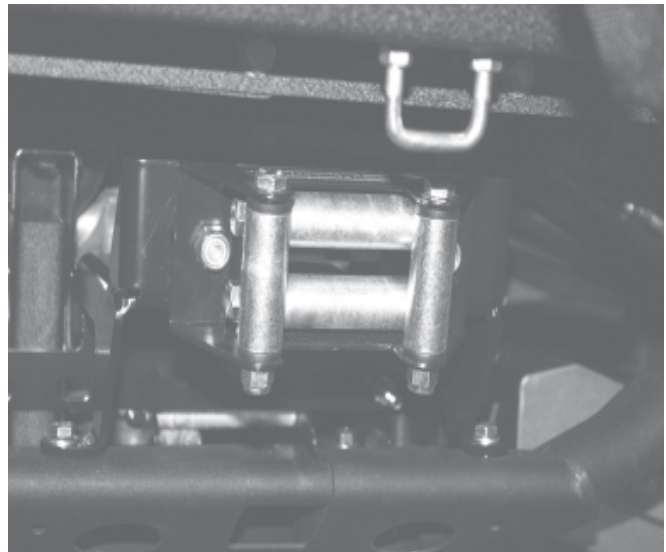

Figure 7
8. Attach the roller fairlead to the mounting plate using the hardware that came with the winch, as shown in figure 7. If using the smaller ATV winch, 2500lb or 3000lb winch, then the large 3/8 flat washer (7B) will need to be placed behind the front flange in the mounting plate. This will give the fairlead hex nut a flat surface to tighten down on.